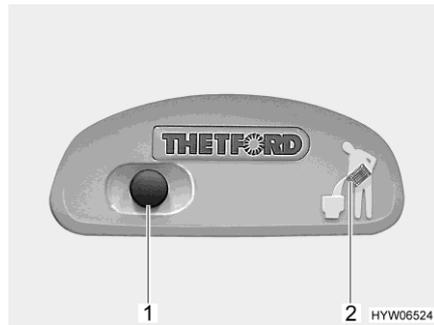
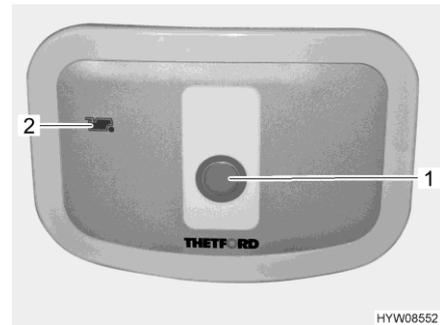

Fig. 293 Flush button/indicator lamp
Fig. 294 Flush button/indicator lamp
- For flushing, press the blue flush button (Fig. 293,1 or Fig. 294,1).
The indicator lamp (Fig. 293,2 or Fig. 294,2) lights up whenever the sewage tank has to be emptied.